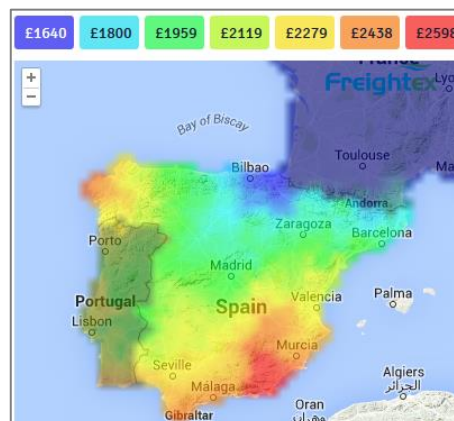

Figure 3 Truck load freight prices [Source: freightex].
- Freight rate (see figure 3 for an example of the freight cost variations)